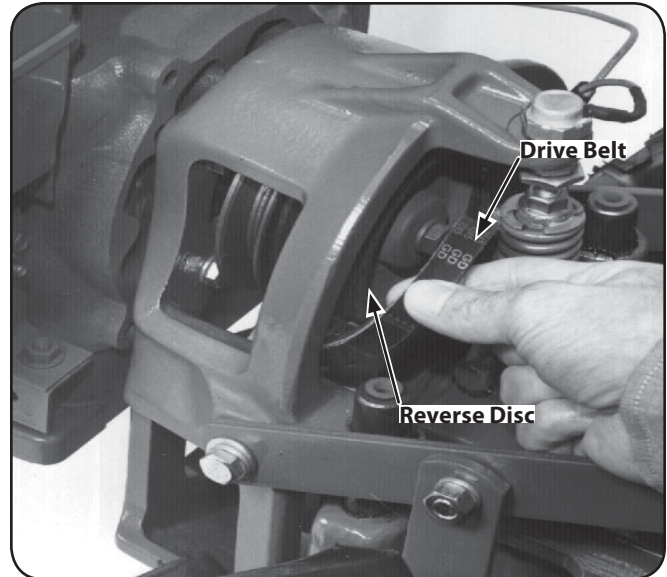

Figure 7-3
5. Lift the top half of the belt up and over the upper pulley and the rubber reverse disc, moving it in front of the reverse disc. See Fig. 7-3.